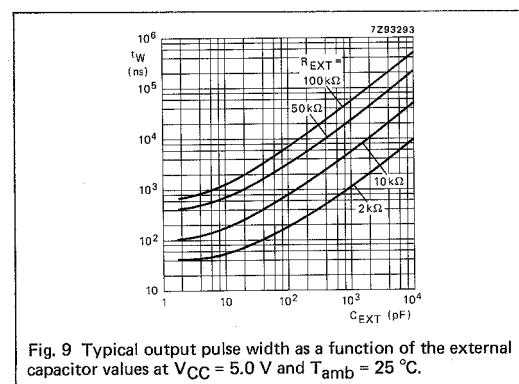

Fig. 9 Typical output pulse width as a function of the external capacitor values at $V_{CC} = 5.0 \text{ V}$ and $T_{amb} = 25^\circ\text{C}$.
1. For other R_{EXT} and C_{EXT} combinations see Fig. 9.